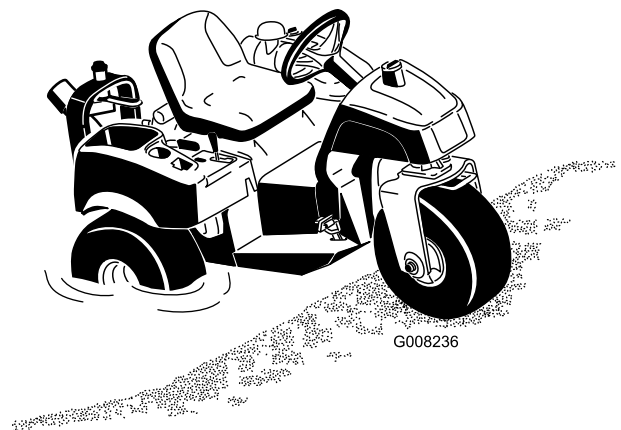

Figure 11
1. Start the Sand Pro machine and slowly back into the shallowest part of the bunker. Do not drive into water that is deeper than the wheel hubs of the Sand Pro machine (Figure 11).